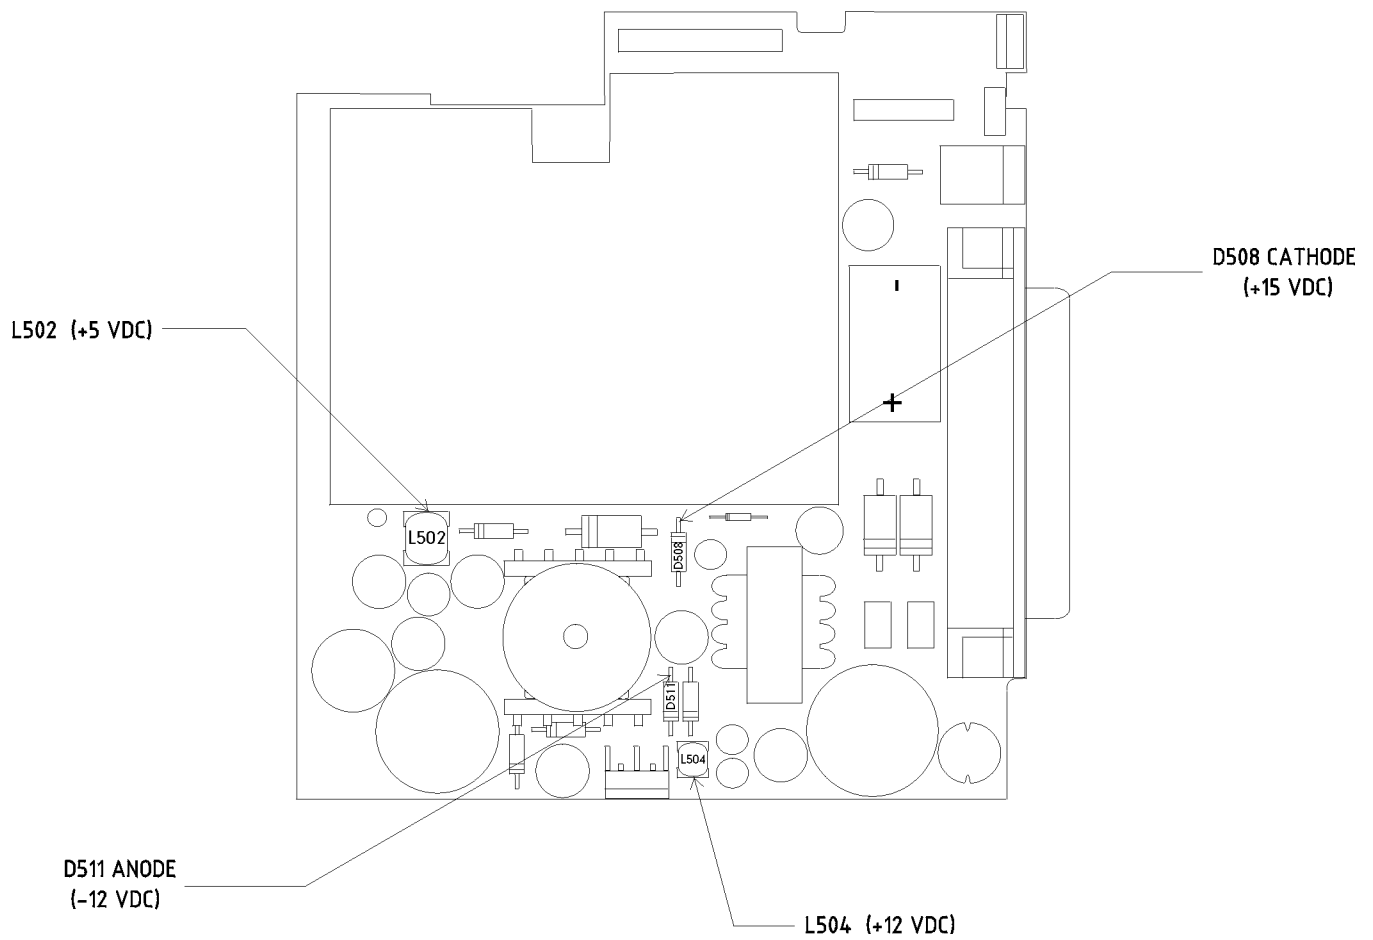

Figure 3-1. CPU Board Power Supply Test-Points (Top View)
1. Check the DC voltage between D511 and ground as shown in Figure 3-1. The voltage should read between -9.60 and -14.40 V. If the voltage is out of the limits specified, replace the CPU board.
2. Check the DC voltage between L502 and ground as shown in Figure 3-1. The voltage should read between 4.8 and 5.2 V. If the voltage is out of the limits specified, replace the CPU board.
3. Check the voltage between L504 and ground as shown in Figure 3-1. The voltage should read between 9.6 and 14.4 V. If the voltage is out of the specified limits replace the CPU board.
4. Check the DC voltage between Q511 and ground as shown in Figure 3-1. The voltage should read between 14 and 29 V. If the voltage is out of the specified limits replace the CPU board.